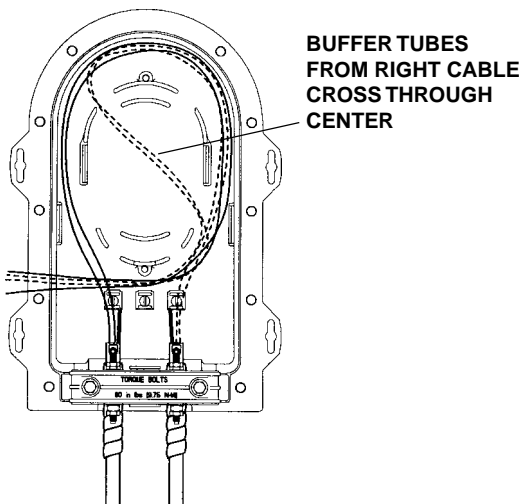

FIGURE 21 - ROUTING BUFFER TUBES IN STORAGE AREA
8.02 Buffer tubes to be spliced should be routed once around the outer storage channel to the front left corner. (Figure 21)
NOTE: Buffer tubes from the cable entering the right cable entry must cross over the center of the inner chamber and proceed to the front left corner. (Figure 21)
9.05 Because buffer tubes will cross through the center storage area (Figure 21), it will be necessary to protect the bare fibers from the unitube cables as they route through the center storage area. The Transport Tubes provided can be used for this purpose.